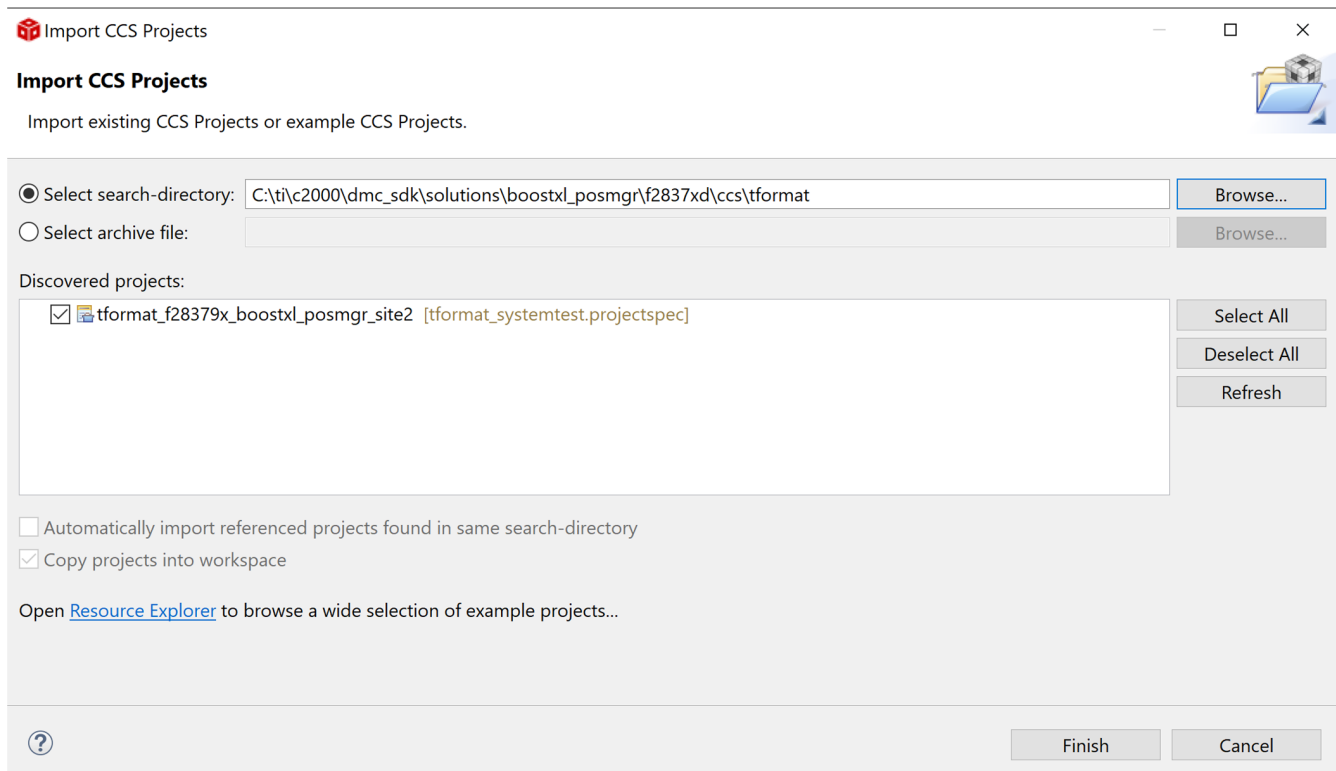

Figure 3-3. Adding PM T-Format Example Project to Workspace
9. Select the project by browsing to <C2000WARE-MOTORCONTROL-SDK> solutions\boostxl_posmgr \f2837xd\ccs (see Figure 3-3).